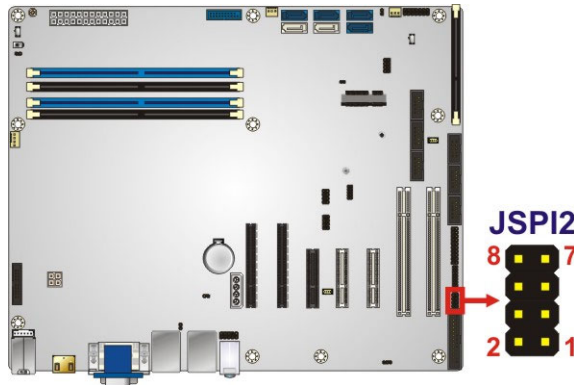

Figure 3-30: SPI EC Flash Connector Location
- CN Location:** See **Figure 3-30**